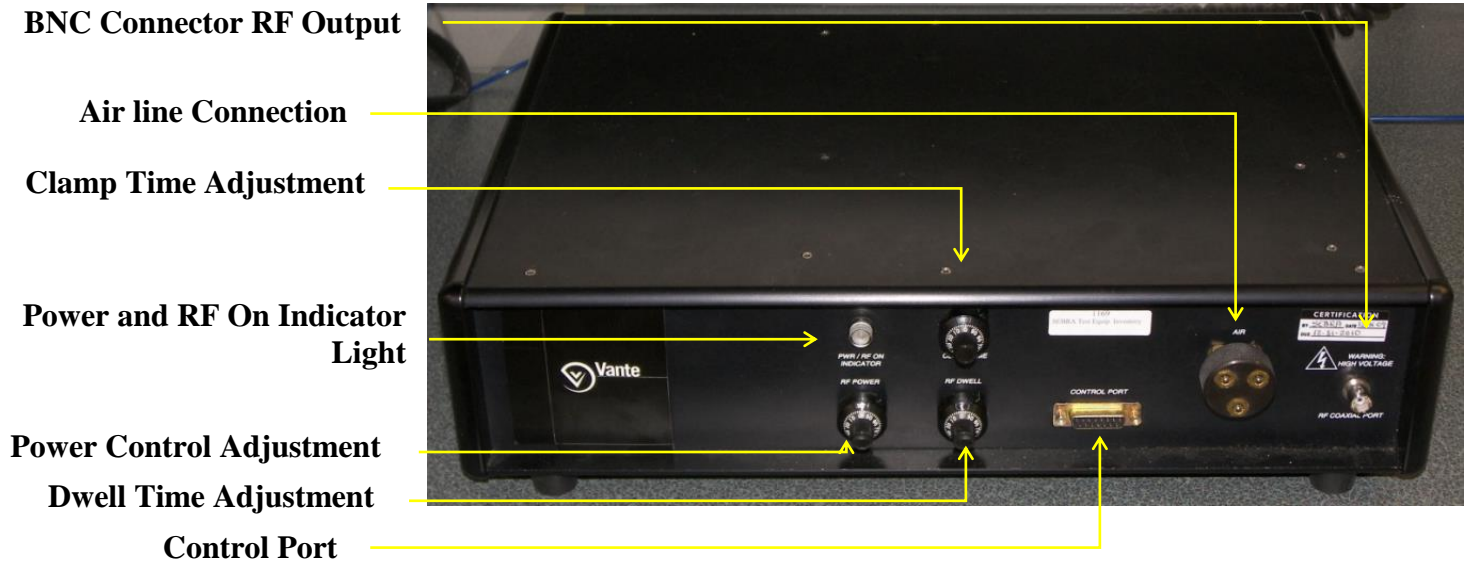
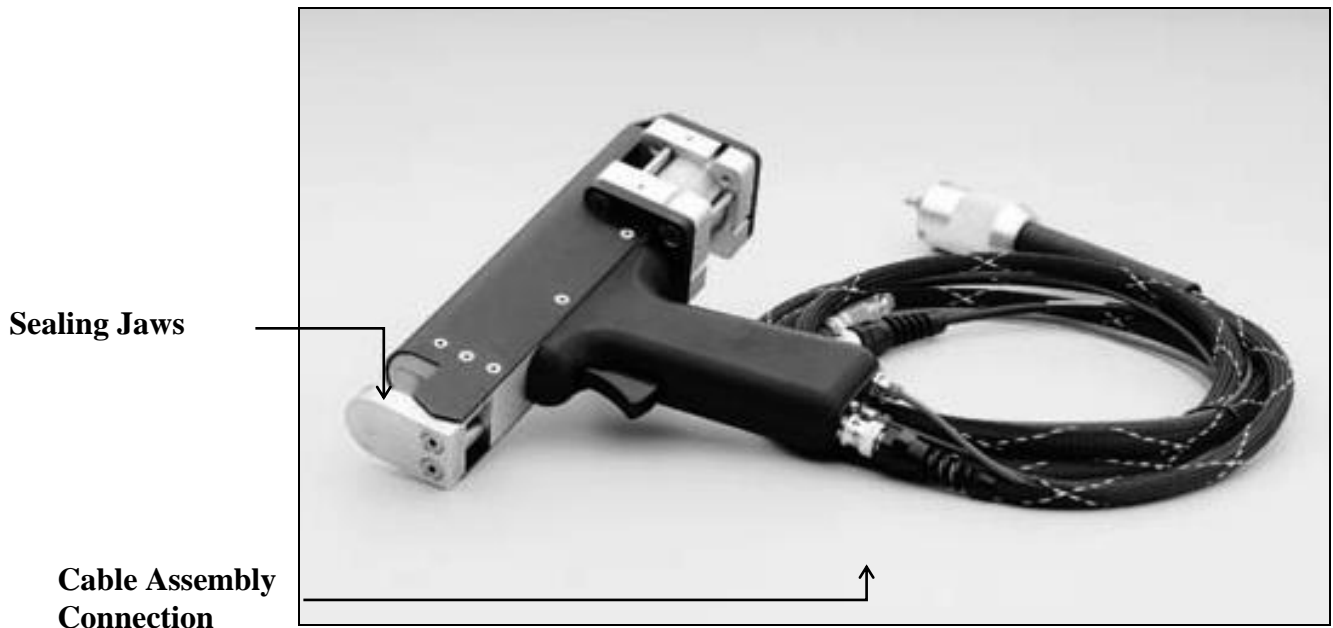

Figure 1.1 Model 3120 RF Generator
Figure 1.2 Model 3806 Mid-Sized Tube Sealer
- 1.6.1 Figure 1.1 and Figure 1.2 indicate component parts of the RF Generator and the Sealer.